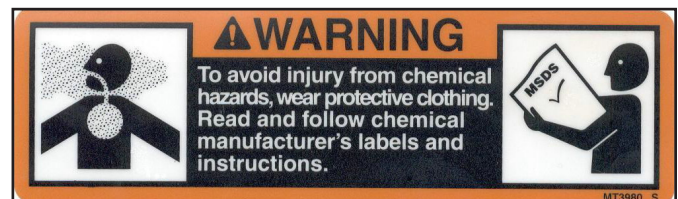

Figure 3: Chemical Warning Decal (DEMT3980)
- Be aware of the chemical warning decal on the sprayer tank (Figure 3).